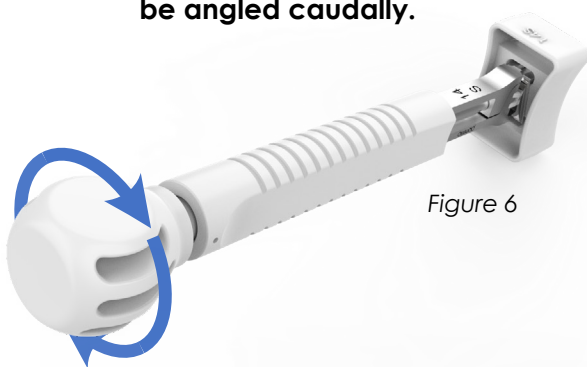

Figure 6
- A. Remove the Inserter Assembly containing the CONTINUUM ACDF Implant from the packaging and rotate the Locking Pin's knob clockwise, approximately one half (1/2) turn, until the Retention Block can be easily removed (Figure 6).